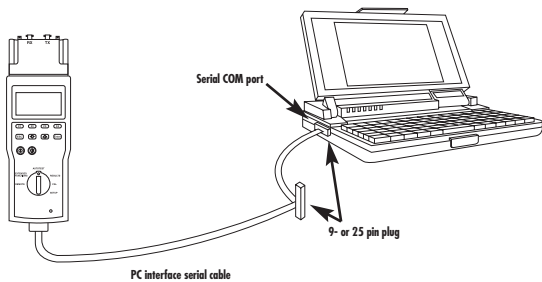

Figure A-3. Connecting the Fiber Meter to the PC.
2. Connect the other end (dual connector, use either a 9- or 25-pin connector) to a PC. See Figure A-3.